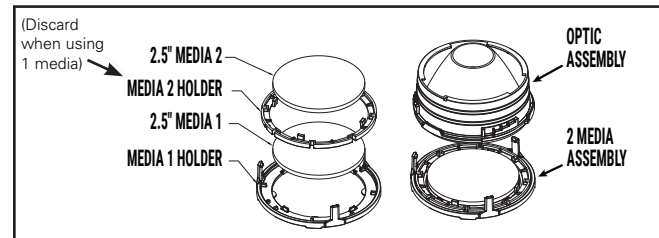

Figure 3
3. Insert media into the holder, if using only one media discard the second media holder ring. (Figure 3)